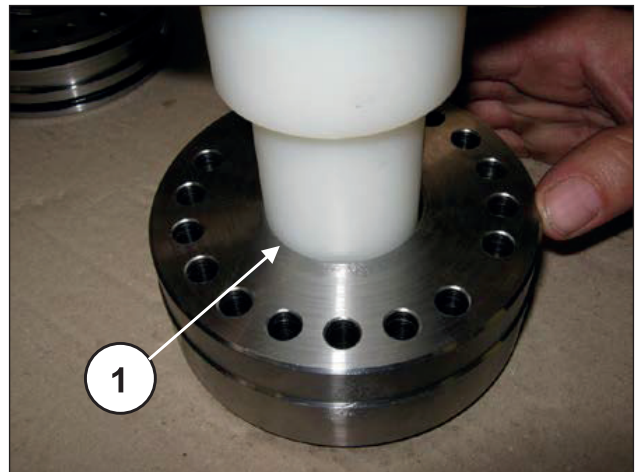

Fig. 198
Introduce in the H.P. seals support, the head ring (pos. ①, Fig. 196) and then the H.P. (high pressure) packing; considering the slight interference between the seal and the H.P. seal support, to avoid damage we advise using a plastic pad (pos. ①, Fig. 197 and Fig. 198).